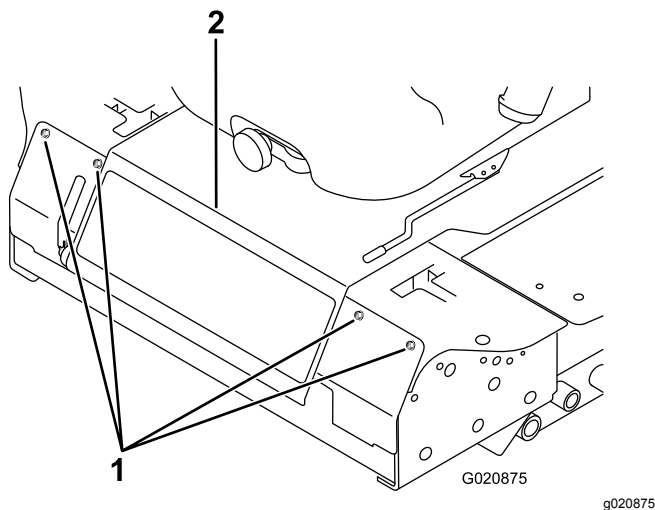

Figure 88
3. Remove the bolts securing the front panel and remove the panel (Figure 88).